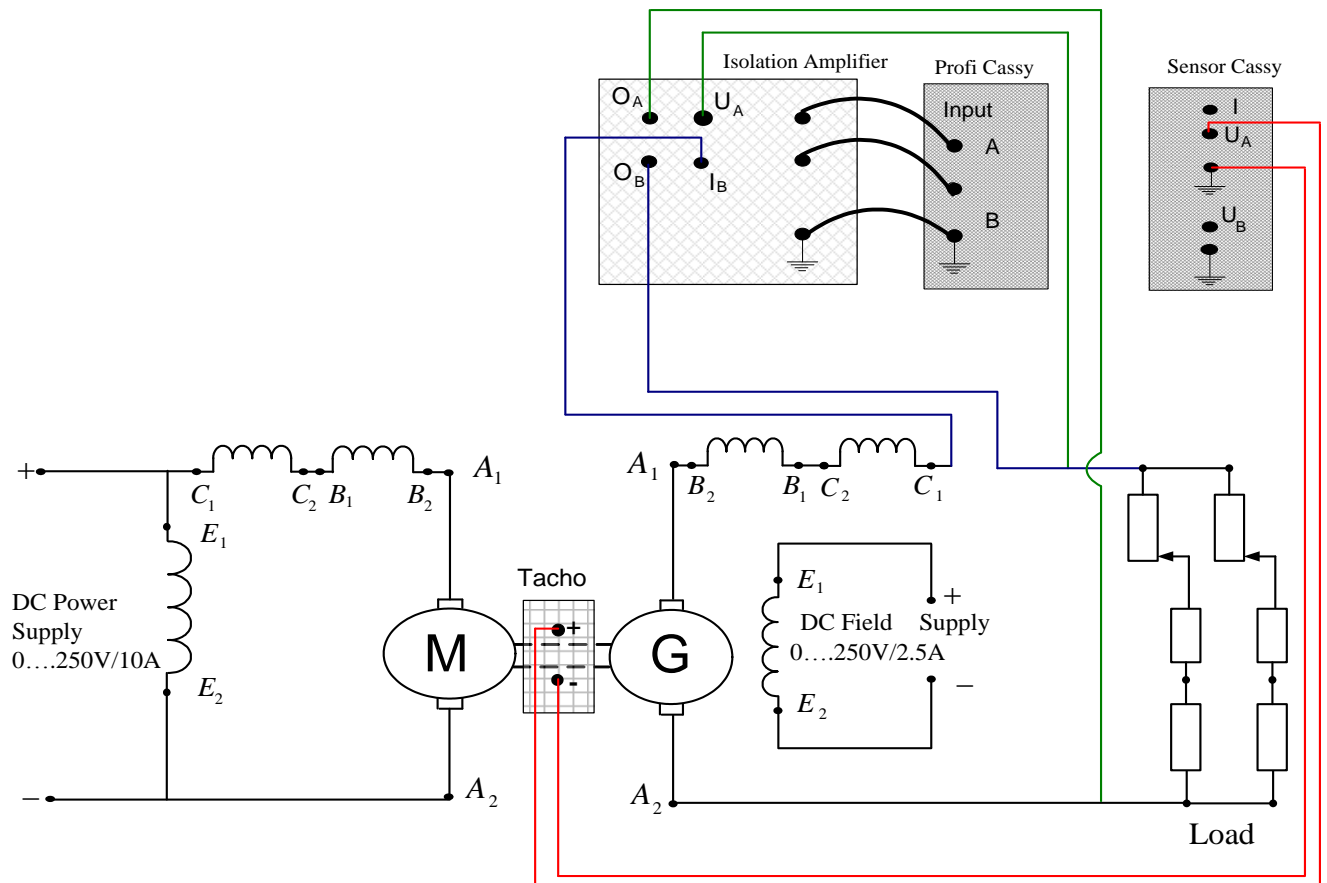

Figure 2: Set Up Load Characteristic for Separately Excited DC Generator
23. Connect the circuit as shown in Figure 2 using Cassy measurement Connection load voltage, for the load current, and for rotor speed. Note that at this stage the load resistance value has to be at 100%.